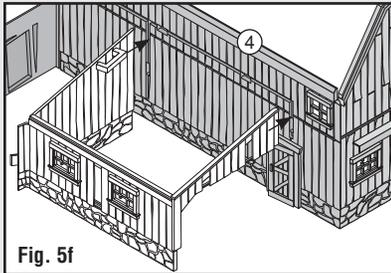

Fig. 5f
- Snap Implement Shed Assembly into place on Wall (4) (Fig. 5f). Apply glue along hidden seam and on inside tabs.